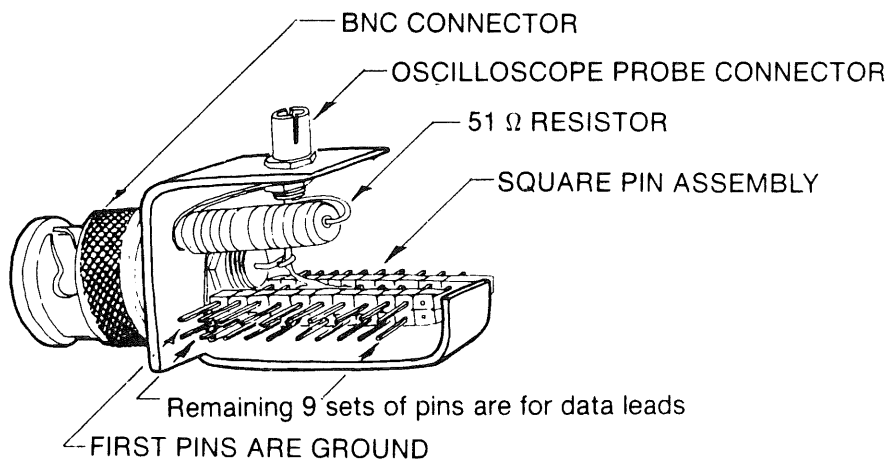

Figure 2-2. Assembled Test Fixture
- a. Refer to Figure 2-2. Solder the ground lug from the BNC plug to the first set of four pins (front end) on the square-pin assembly. It is important that this connection be as short as practical to avoid high-speed signal loss.